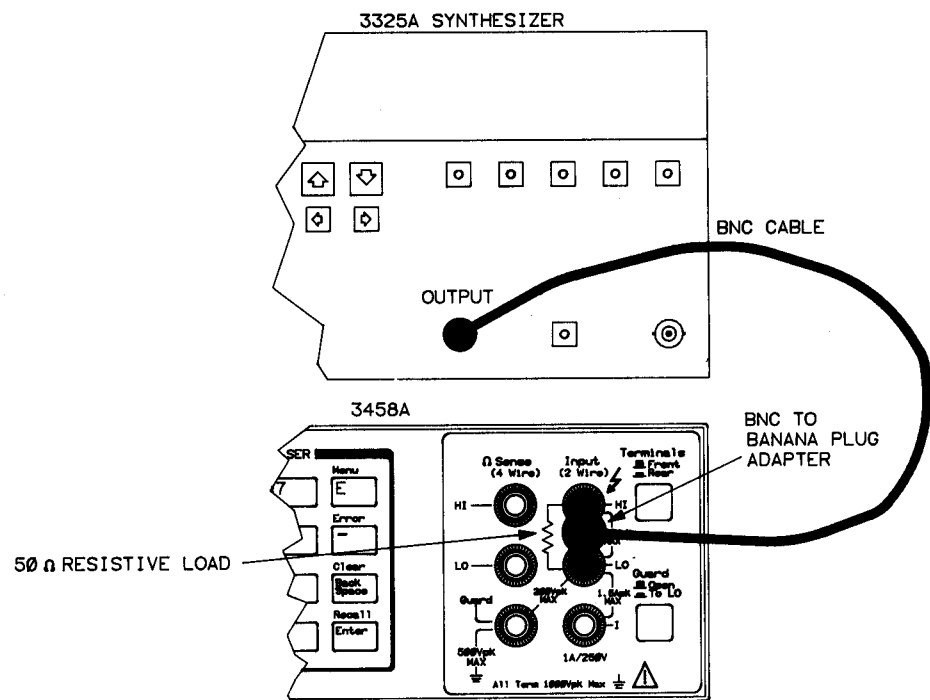

Figure 5. AC Adjustment Connections
10. Disconnect the thermal converter and connect the synthesizer, 50 Ω resistive load, and multimeter as shown in Figure 5.